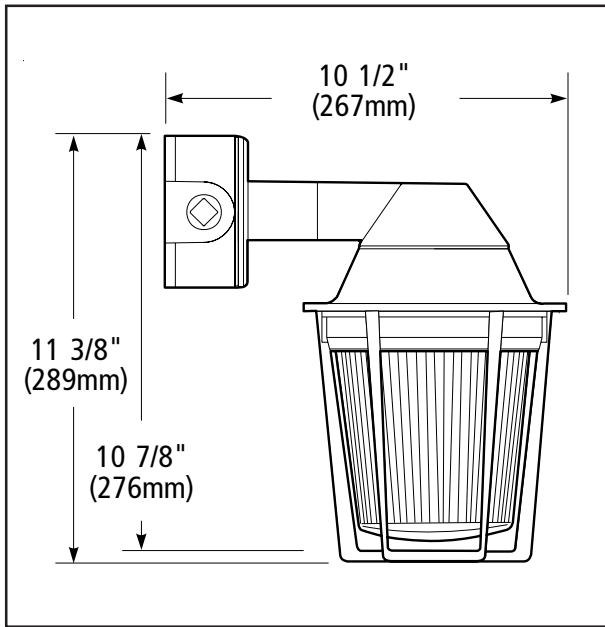

Figure 2. Detail of Bracket Mounting
- Bracket Mount Models** (Figure 2): Remove the outlet box from the end of the mounting bracket. Install the outlet box using appropriate hardware (not